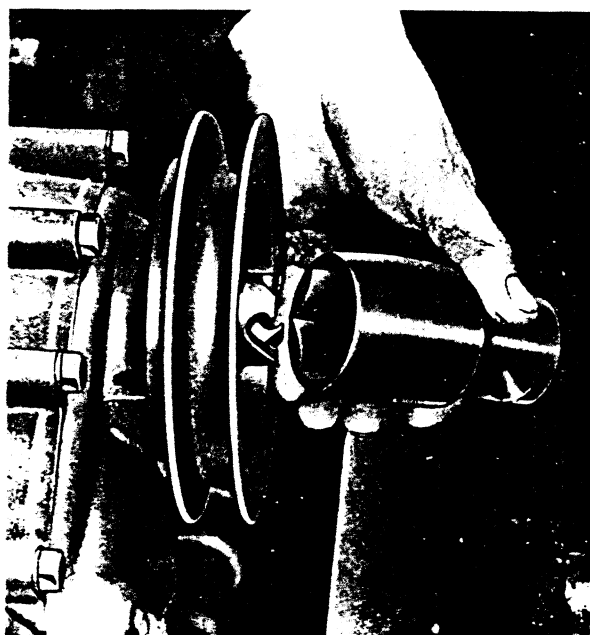

FIG. 25
3. Remove starting handle jaw, using service tool FTB.16, Fig. 25, with long lever. Bend back tabs of starting handle jaw lock washer, then select 4th gear and apply parking brake before striking lever to unscrew jaw.